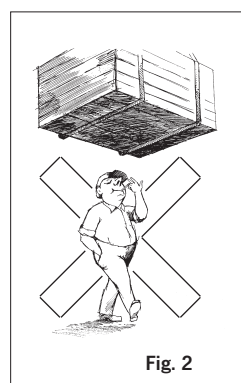

Fig. 2
- Do not allow personnel to pass under a suspended load (see Fig. 2).